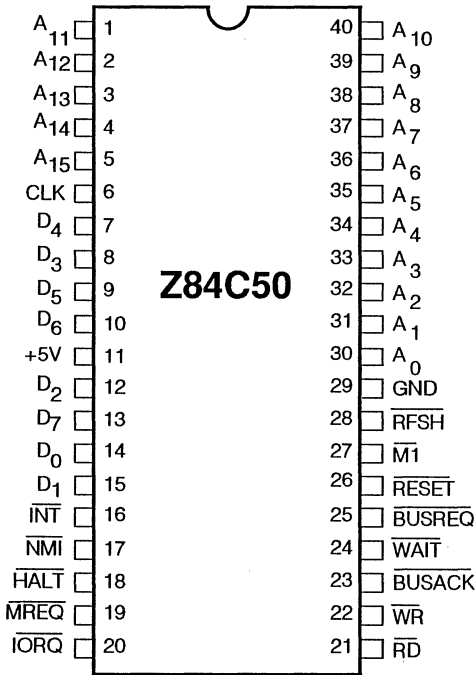

Figure 1. Pin Connections (top view) - DIP Package
**Pin Connections.** The pin connections of the Z84C50 are as shown in Figures 1 to 3.